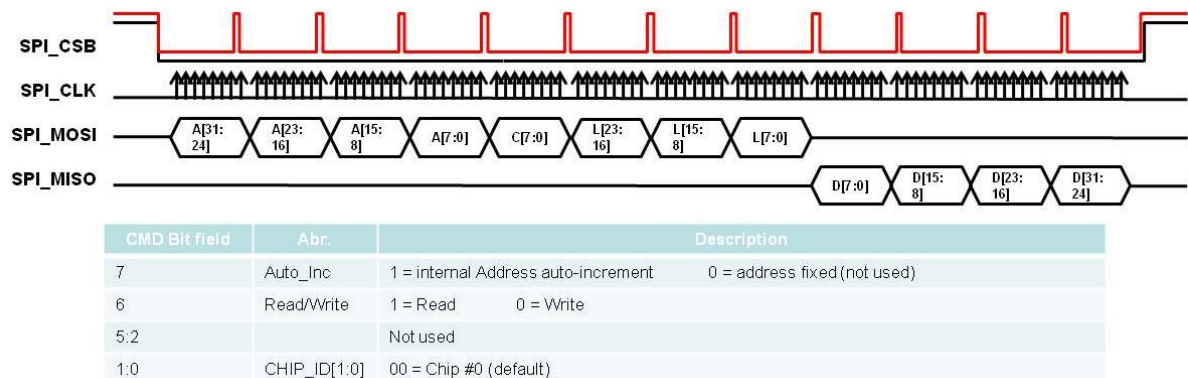

Figure 11: SPI Signals for Read Response
- Note that the read data is transmitted MSB first and little-big endian system (see Figure 11).
- ② The read data should be 0x78-0x56-0x34-0x12-0x08-0x00-0x83-0x00.
- ③ Host sends: (0x12-0x34-0x56-0x78)-(0xC0)-(0x00-0x00-0x08), then read data from DA16200.
- ④ Note that the read data is transmitted MSB first and little-big endian system (see Figure 11).
Note that the read data is transmitted MSB first and little-big endian system (see Figure 11).